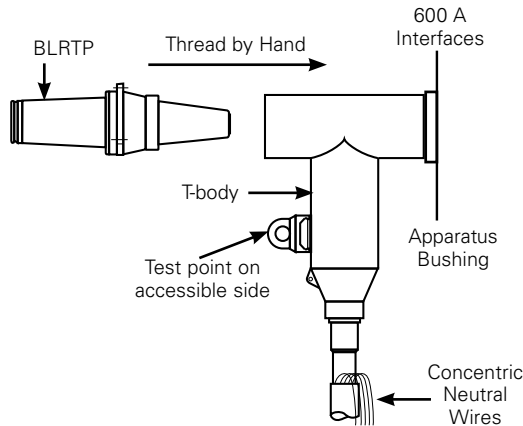

Figure 27. Line illustration of BLRTP installation.
- Insert BLRTP into back of T-body engaging the threads of the stud. See Figure 27.